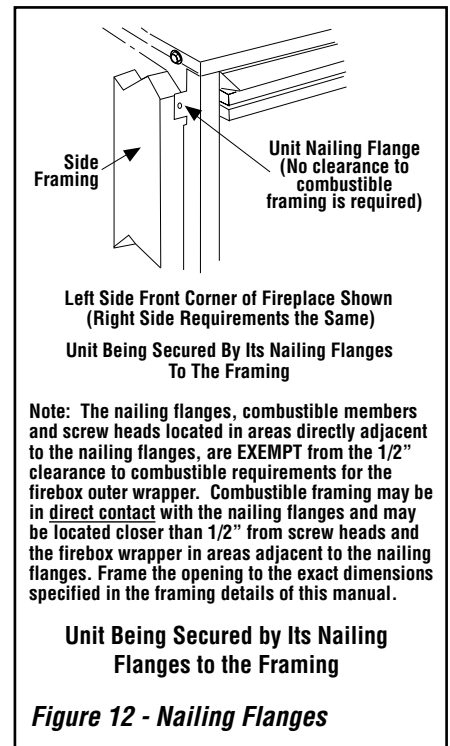

Figure 12 - Nailing Flanges
Step 1. (Page 10) Construct the appliance framing. Position the appliance within the framing and secure with nailing brackets. Bend up the appropriate header spacing guides for the drywall/finish material thickness to be used (refer to **Figure 62, page 33**). Bend up the outer pair for 1/2" materials and the inner pair for 5/8" materials. Bend out the appropriate nailing flanges for the drywall/finish material to be used. Nailing flanges are provided for flush framing, 1/2 inch and 5/8 inch framing depths (see **Figure 12**).
The fireplace should be secured to the side framing members using the unit's nailing flanges - one top and bottom on each side of the fireplace front. See **Figure 12**. Use 8d nails or their equivalent.